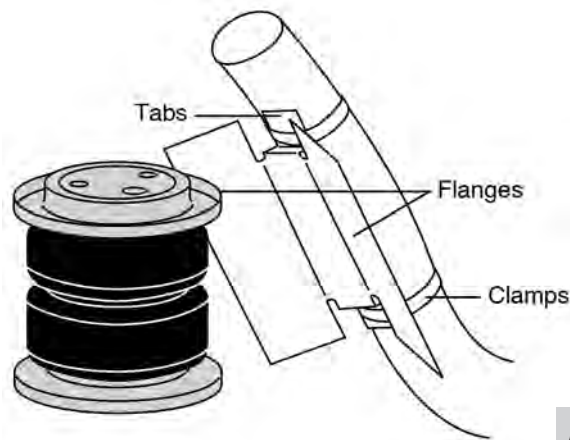

fig. 7
11. Installation of this kit requires an exhaust heat shield (Figure 7). The shield is attached with the stainless steel clamps to the exhaust pipe, with the flanges being bent inward. Shield may be trimmed or bent to attain component clearance. Bend tabs to provide 1/2" dead air space between exhaust pipes and heat shield and maximum clearance with bellows.